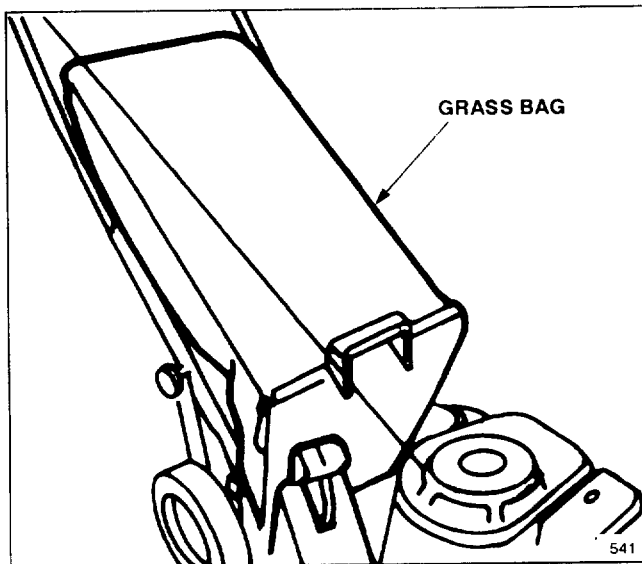

Figure 20
1. **Rear Bagging Kit, Model No. 59279**—Install discharge tunnel and rear mounting grass bag to convert the Recycler® mower to a rear bagging mower (Fig. 20). Includes discharge tunnel plug.